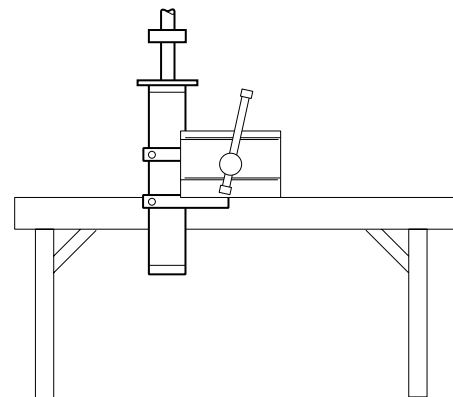

Fig 9.
- 4 Clamp the cylinder vertically and lower the piston rod assembly in from the top, see, making sure its orientation is correct, i.e. with piston sleeve **C** nearest the closed end of the cylinder. ⇒ Fig 9. \(□ H6-8\) Take care not to allow the piston rod to come into contact with the cylinder bore. Be sure to engage the piston head new wear rings and seals carefully into the cylinder. If the piston head wear rings or seals are damaged during this stage, they must be renewed.